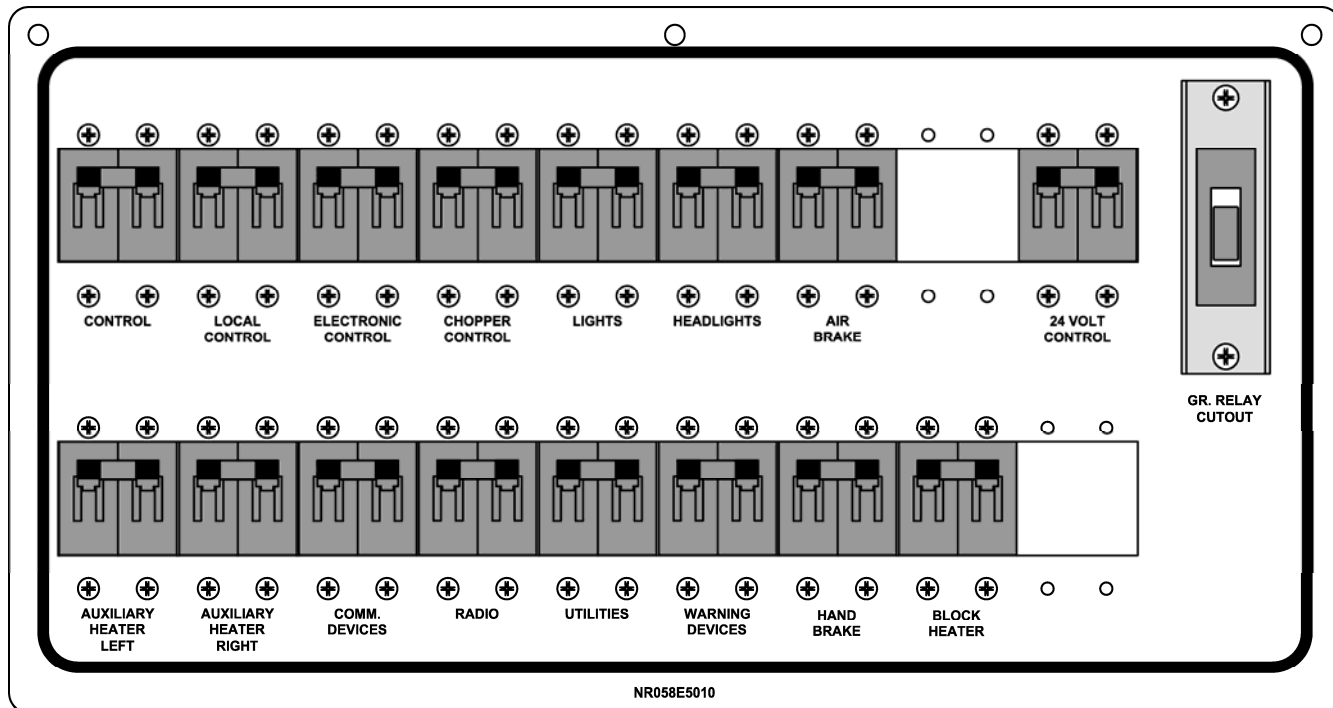
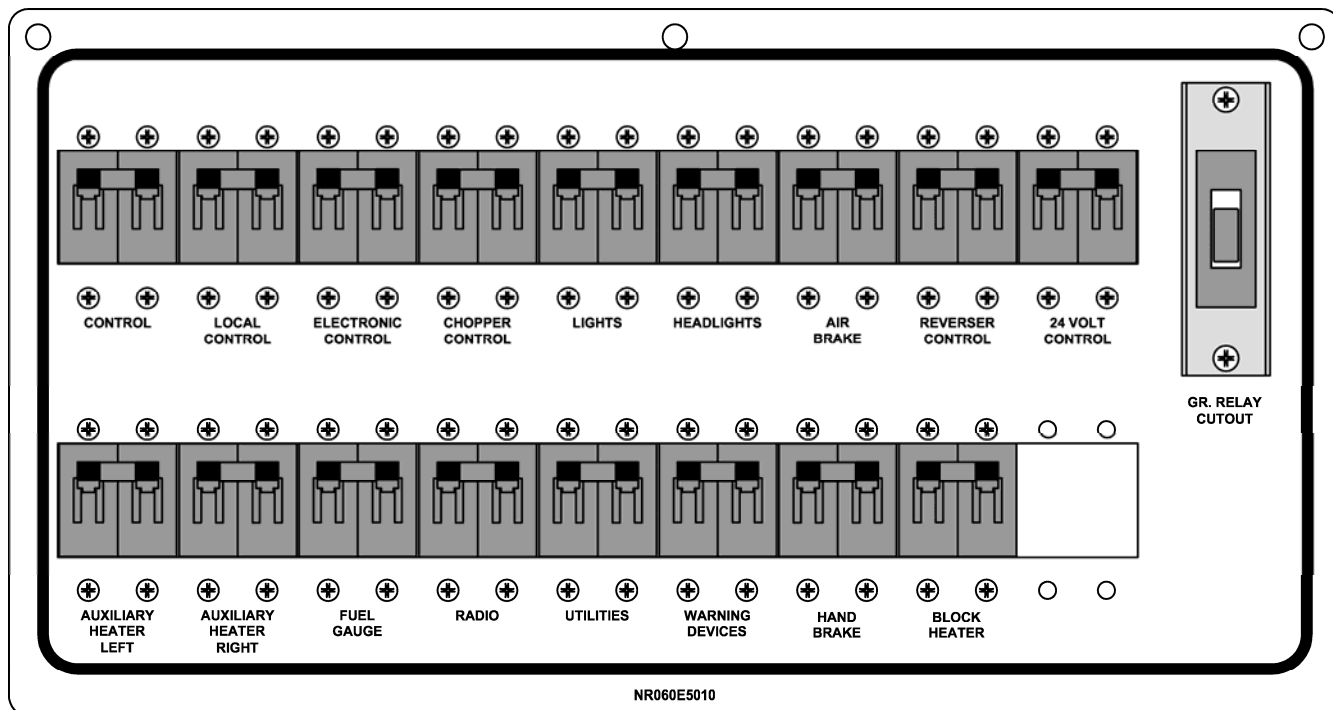

Figure 5-17 – Circuit Breaker Panel version 1\*
Figure 5-18 – Circuit Breaker Panel version 2\*
The circuit breaker panel is used to operate, isolate, and protect various systems on a locomotive. The breakers contained in the panel can be operated by the levers on the front of the panel. These breakers protect equipment and alert the operator of a problem by tripping when such an event occurs. If a breaker has a guard installed, it is meant to stay on at all times. Fig 5-17\* and Fig 5-18\*.
This breaker is exclusive to version 2 (Fig 5-18). It supplies power to the reverser module (RV) and must remain ON for proper operation of the locomotive.
This breaker is exclusive to version 2 (Fig 5-18). It supplies power to the fuel gauge system.